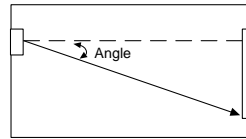

Fig 2: Angle between Wireless GBR and glass
Verify that the distance between the Wireless GBR and the furthest point on the protected glass does not exceed the maximum specified range taking into account the reduced range due to angle (see Fig 2).
- **Side wall mounted** (not recommended due to the fact that the Wireless GBR is not opposite the glass - see range versus angle diagram (Fig 2). Test detection carefully at both ends of glass using RG-65 Tester (see fig. 6).